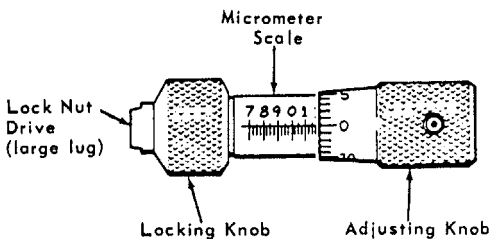

FIGURE 6
- a. Slide the Adjusting Knob of the Quick-Setting Wrench all the way out (extreme open position). See Figure 6.